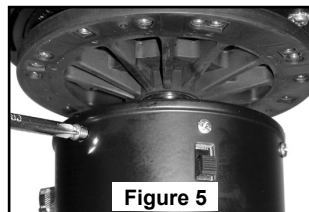

Figure 5
6. Carefully reconnect the connector and push all wires back into switch housing of fan. Then replace cover with original screws. (Figure 5-various fan models) (Figure 6-Sandella model) (Figure 7-Treventi model)